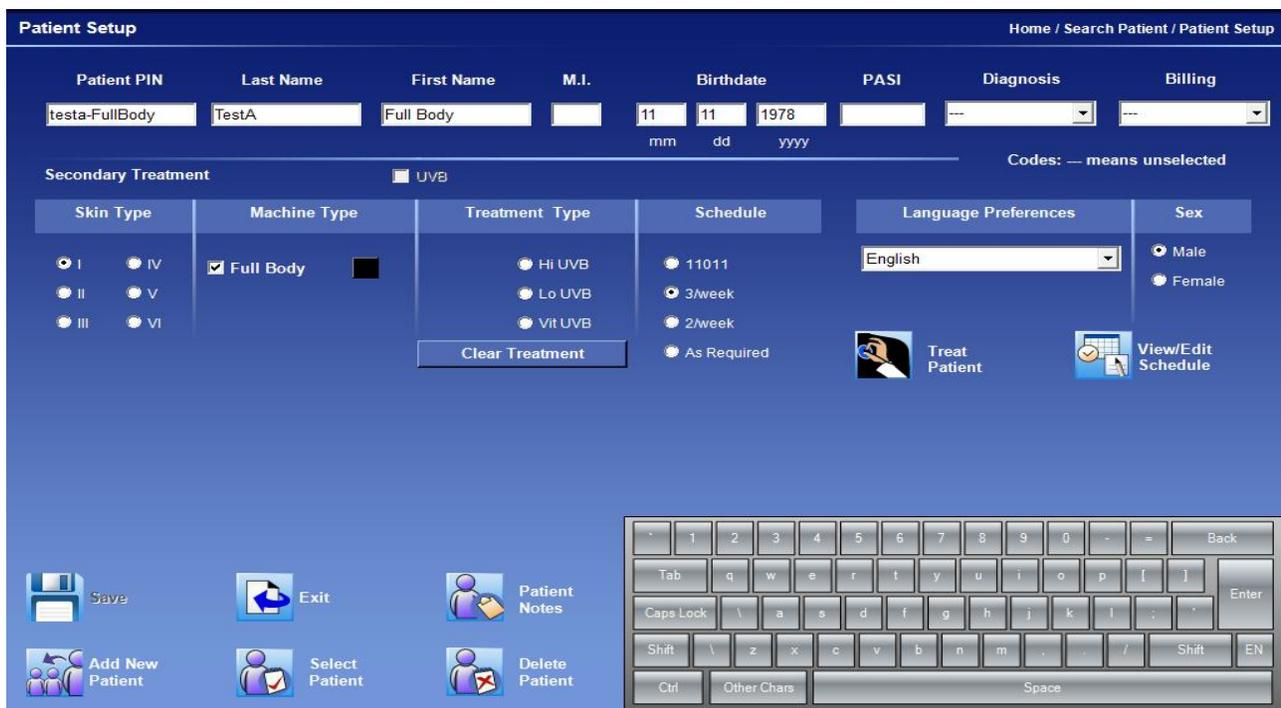

Figure 14 – Patient Setup Screen
2. Select the **Add New Patient** button, by tapping it once. The Patient Setup screen will be displayed (See **Figure 14 – Patient Setup Screen**), and the cursor will appear in the **Patient PIN** field.